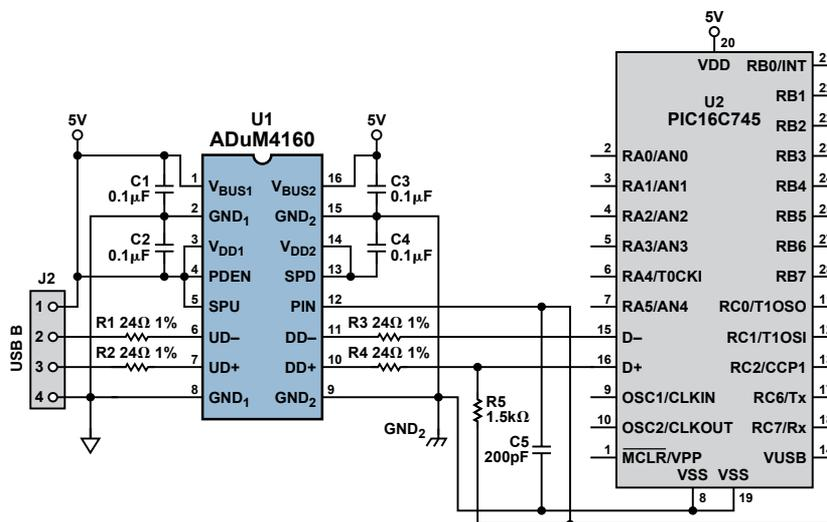

Figure 7. Isolated peripheral port.
- It will be installed in a peripheral to isolate its upstream port. The ADuM4160 was designed with this configuration as the base application. It leads to the simplest power and control configurations (Figure 7).
In the peripheral application (Figure 7), where the peripheral has its own source of power, almost no power is required from the USB cable—about 10 mW to run the isolator’s upstream side and the pull-up resistor. Since the peripheral operates at a single speed, the isolator is hardwired for the desired speed setting, either *full speed* or *low speed*. If the peripheral port happens to be *high-speed-capable*, then it sends a high-speed “chirp” pattern during enumeration. This would normally initiate negotiations for high-speed operation, but the ADuM4160 blocks the chirp signal and automatically forces the high-speed peripheral to operate at *full speed*. For low-power peripherals that don’t have their own supply, an isolated dc-to-dc converter, such as the ADuM5000, can be used to supply the peripheral and the ADuM4160, drawing power from the USB cable.